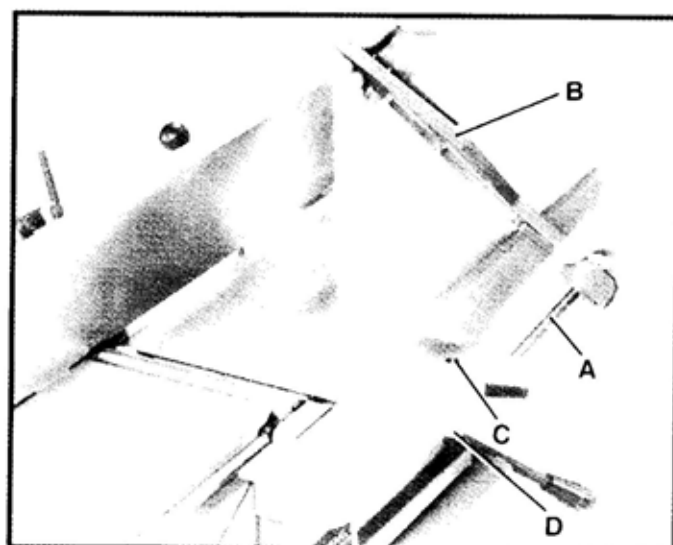

Fig. 20
1. Remove set screw (not shown) from post (A) Fig. 20, of cutterhead guard (B).
2. Insert post (A) Fig. 20, through hole (C) in the infeed table. **NOTE:** A spring is supplied in knob assembly (D) Fig. 20, that returns the guard (B) over the cutterhead after a cut has been made. Turn knob (D) to provide tension on the spring inside knob assembly (D) Fig. 20, engages inside the slot of the post. If spring tension is too much, or too little that it does not allow the cutterhead guard to spring back over the cutterhead, adjust the spring tension as necessary by rotating the guard and rotating knob (D).